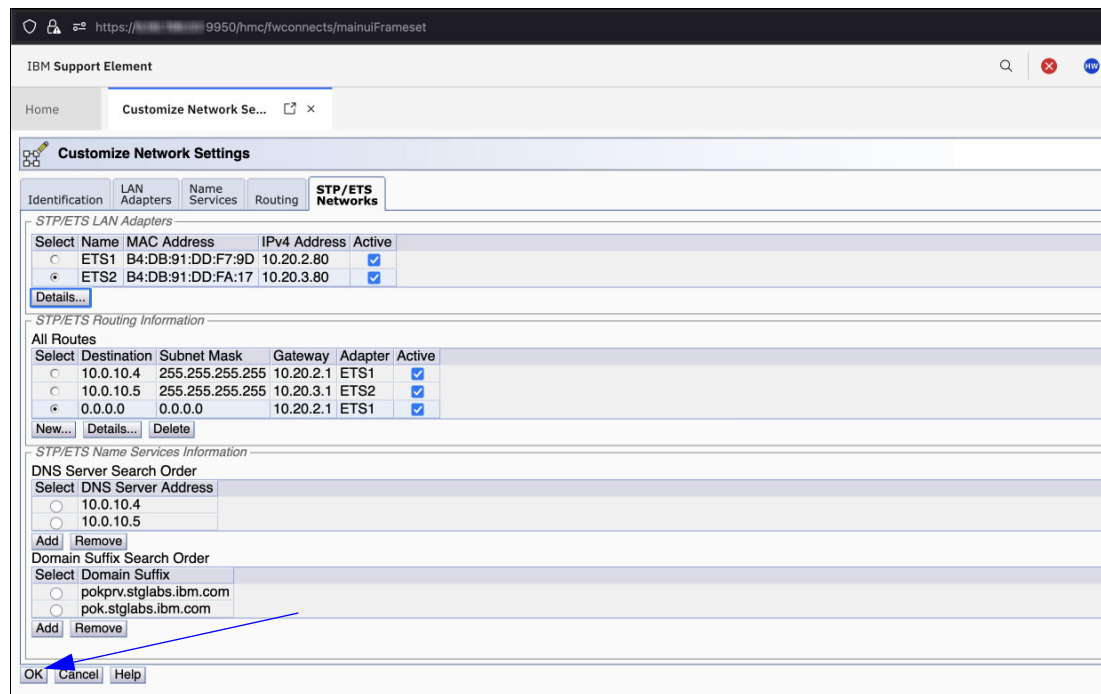

Figure 4-7 ETS Network settings (overview before committing changes)
9. When all the data is entered (Figure 4-7), click **OK** to commit changes.